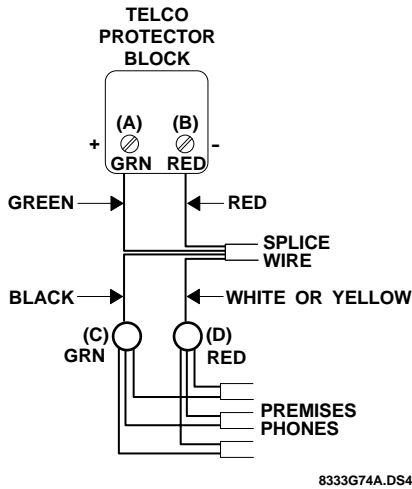

Figure 17. Wiring the RJ-31X Jack's Splice-wire
- 5) Connect your splice-wire's green and red leads to the positive and negative Telco protector block terminals, respectively (see A and B in Figure 17).
- 6) Connect your splice-wire's black lead to the premises phone's positive wire(s), normally green (see C in Figure 17).
- 7) Connect your splice-wire's white/yellow lead to the premises phone's negative wire(s), normally red (see D in Figure 17).